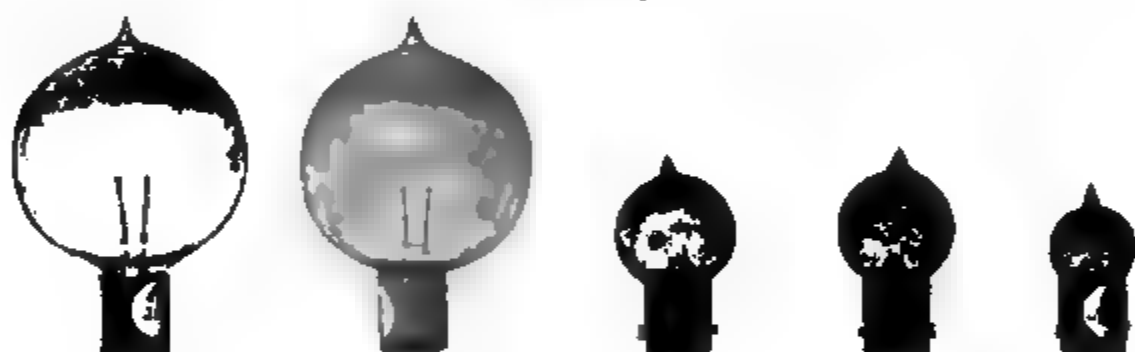

Fig. 184 Westinghouse Lamps—Head, Side, and Tail
**Mazda Type.** Fig. 184 shows the standard types of lamps generally used. These are Westinghouse Mazda lamps for 6 volts, those at the left being 15 c.p. headlight lamps; the next two, 6 c.p.